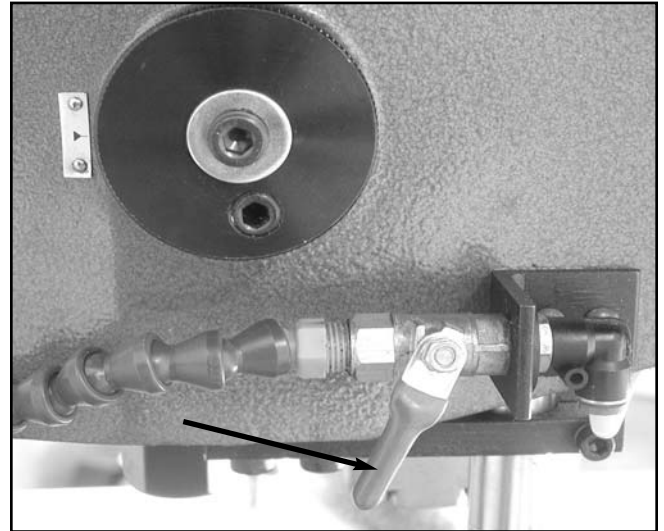

Figure 6. Air line control for chip blower.
1. Turn control on and off to see if pressure exists as shown in **Figure 6**.